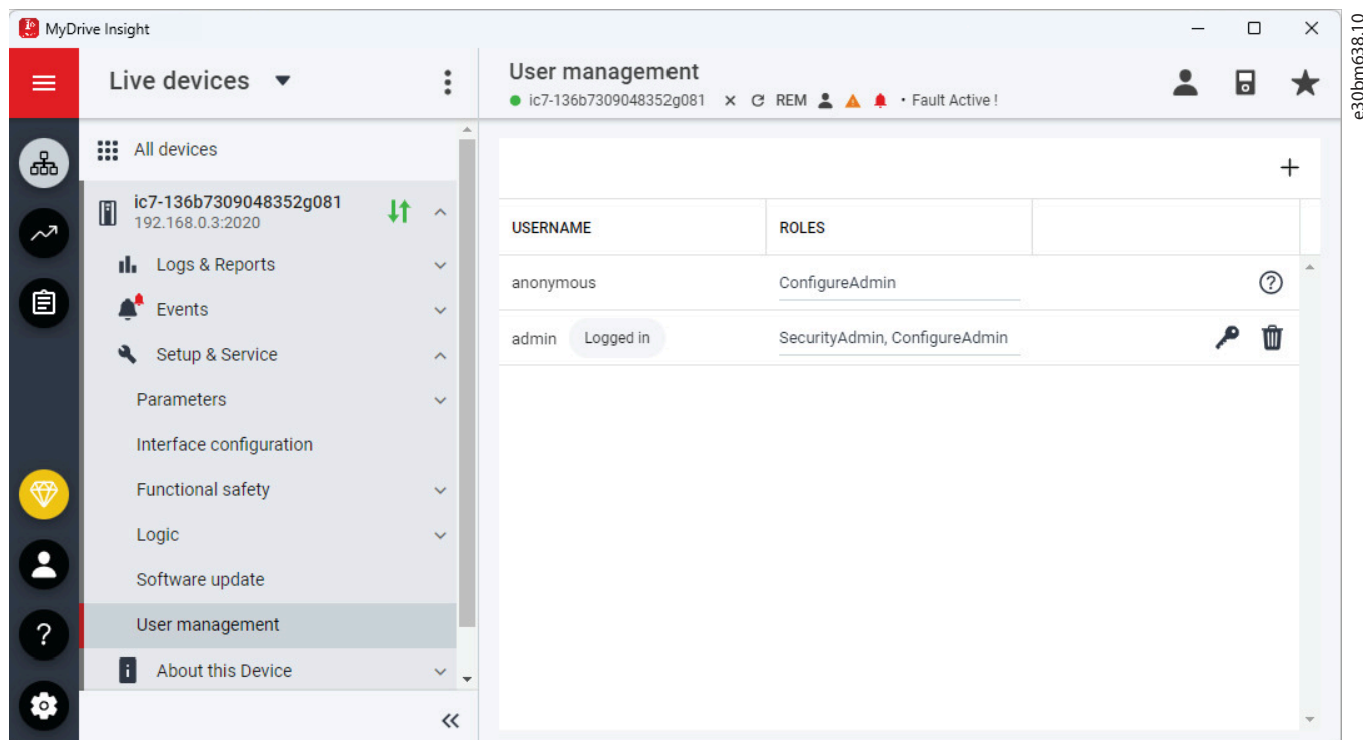

Figure 7: Accessing User Management as Admin
3. To delete a user, select the bin icon next to the user (see Figure 7).